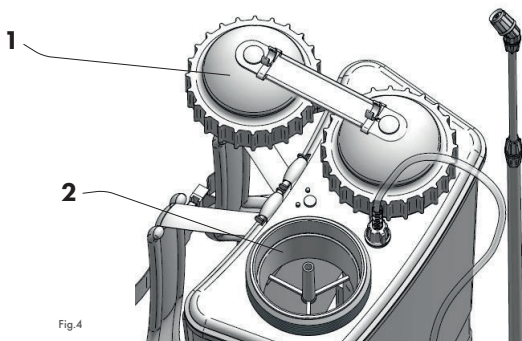

Fig.4
Place the assembled sprayer on a flat surface. Unscrew the filling unit safety cap (Fig. 4/item 1).
Pour the previously prepared spraying liquid through the strainer underneath (Fig. 4/item 2). Any dirt which may have found its way into the strainer should be discarded. Screw on filling unit safety cap. The strainer can remain under the cap. Move the sprayer to the workplace. Start the pump with the main switch (Fig. 1/item 11). It will stop working automatically when the correct system pressure is reached. Now you can put the sprayer on your back and adjust the straps. **Lift the sprayer by the straps without the safety buckle.** Adjust and fasten the hip belt. Point the lance spray tip at the spray area and begin spraying by using the lever (Fig. 6/item 2) on the lance handle. Spray in the direction of the wind.